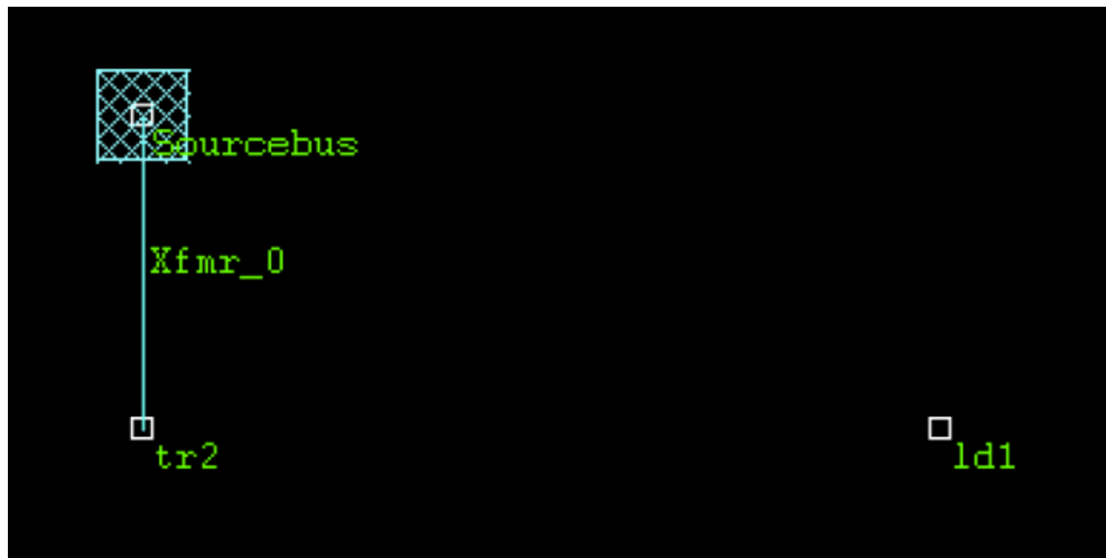

Fig.6. New bus added to the model for placing a line
- To add a line, it is necessary to create a new bus in order to have a destination bus when creating the line. The new bus is called ld1 in this example as shown in Fig.6.